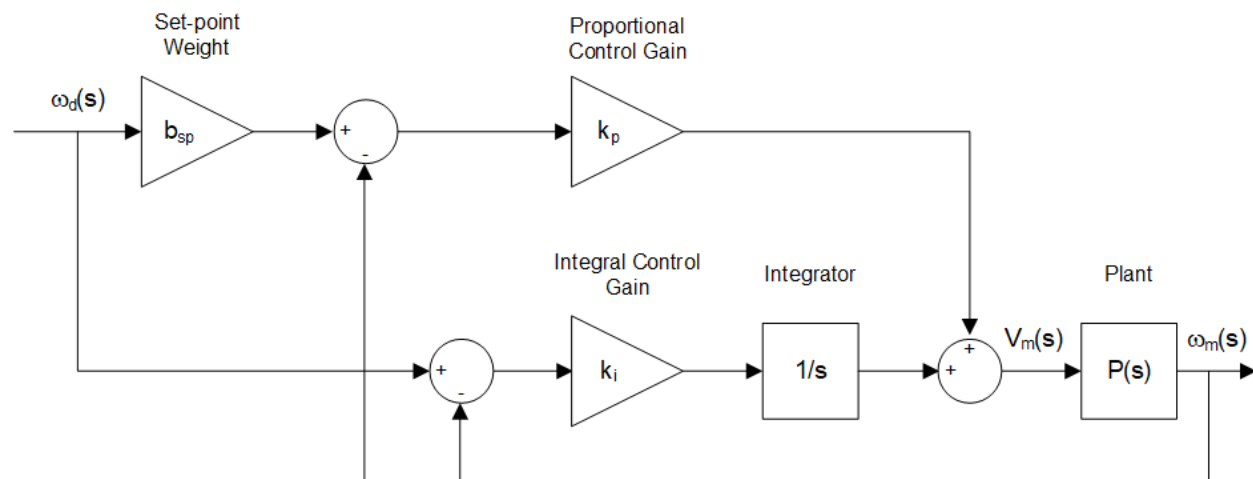

Figure 1-1: Closed loop PI control system block diagram
The speed of the Quanser Controls Board DC motor is controlled using a proportional-integral (PI) control system. PI control combines a measure of the current instantaneous error of the system with the accumulated error over time. The block diagram of the closed-loop system is shown in Figure 1-1: